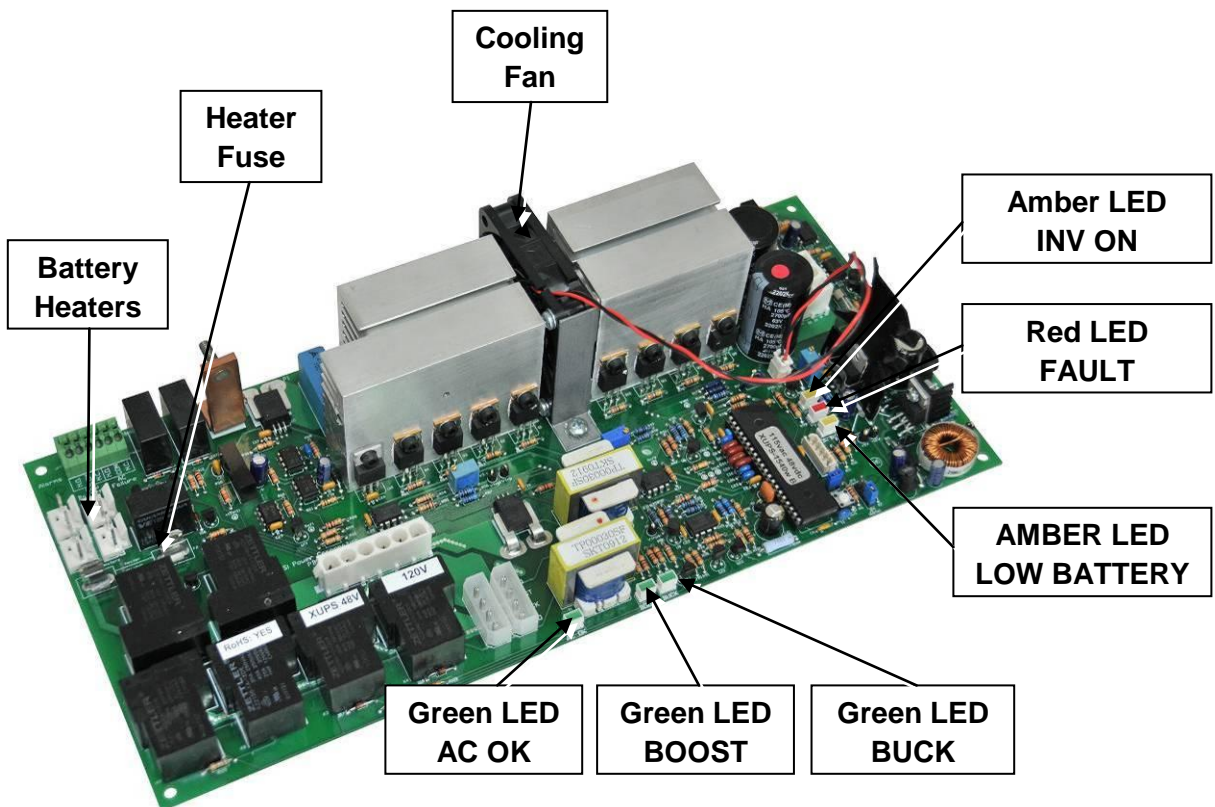

Figure 6: Main Inverter, Charging & Voltage Regulation Circuit Board
The control board of the Outdoor XUPS uses a rugged design with a microprocessor-controlled 20 kHz sinewave inverter (see Figure 6). The circuit boards are conformally coated for use in severe outdoor environments. The control board includes integral LED indicators for AC OK, BOOST and BUCK as well as INV ON, FAULT and LOW BAT to provide a real-time status of the XUPS' operation.
- 4.24** Verify that all LEDs on the Control Board Assembly (see Figure 6) illuminate one by one. **THIS MAY TAKE APPROXIMATELY FIVE (5) SECONDS.**